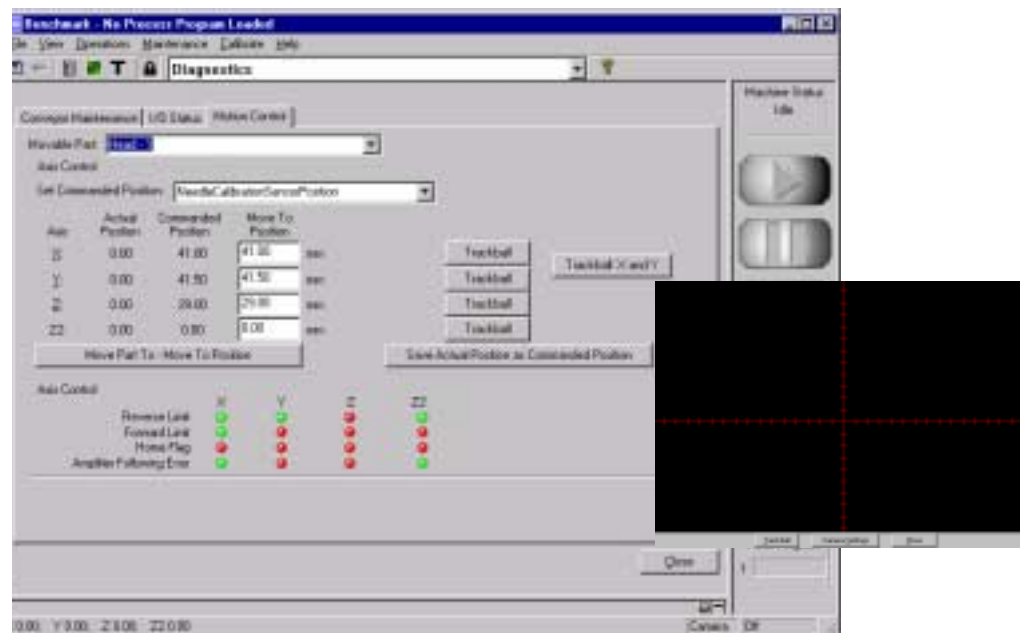

Figure 6-36
2. Select the **Motion Control** tab from the **Machine** screen. The **Motion Control** screen appears. See Figure 6-36.